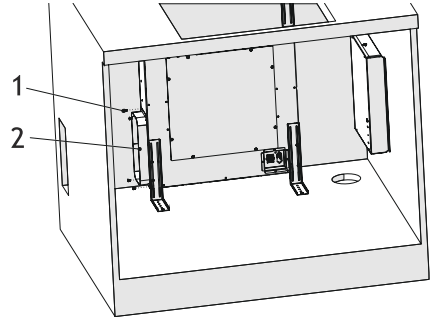

Fig. 21
12. ➔ Install air exhaust adaptor on the housing using 4x 3.5x6.5 screws (Fig. 21).